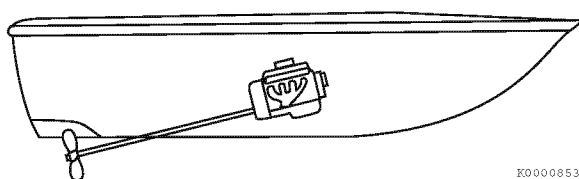

Figure 4-4
- Parallel (**Figure 4-4**)
The output shaft of the marine gear is parallel to the crankshaft (**Figure 4-4**). The engine is installed at an angle. This configuration offers the greatest engine efficiency but might not provide the best possible hull efficiency.